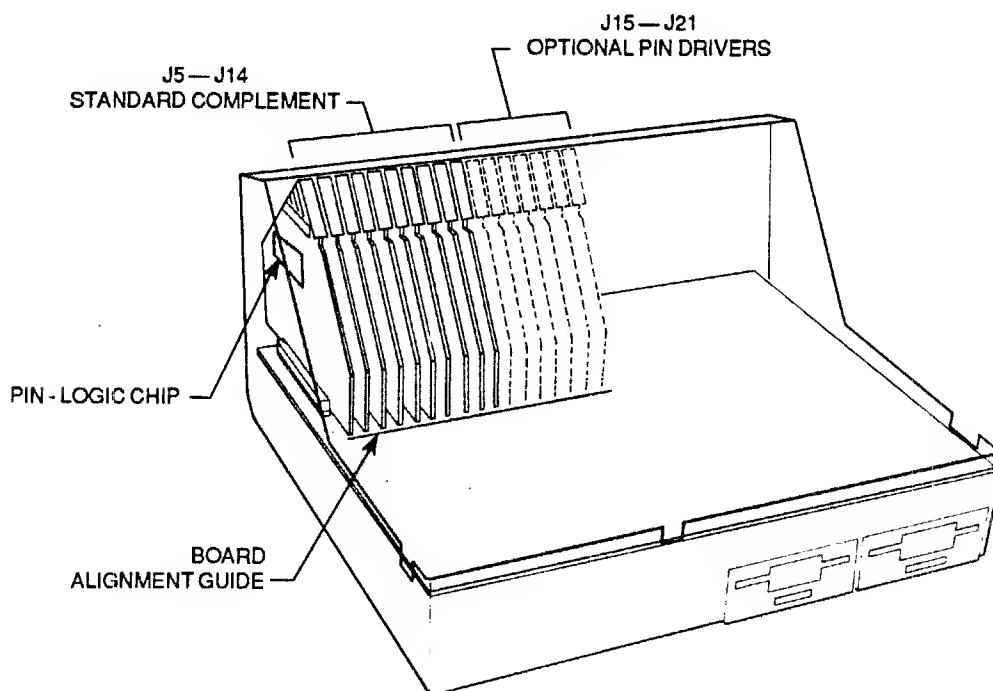

Figure 2-9. Installing the Pin Driver Boards
1. Install the Pin Driver boards with the 68-pin, pin-logic chip facing to the left (see figure 2-9).